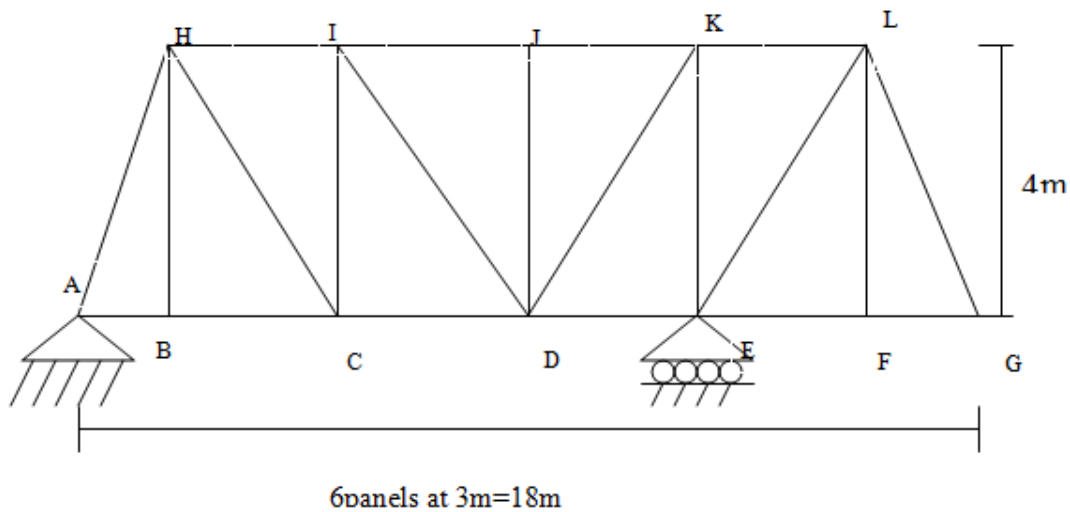

Figure 6
4. Draw the influence lines for vertical reactions at supports A,E and for the axial forces in members CI,CD, DI, IJ and FL of the truss shown in figure 6 (20mks)